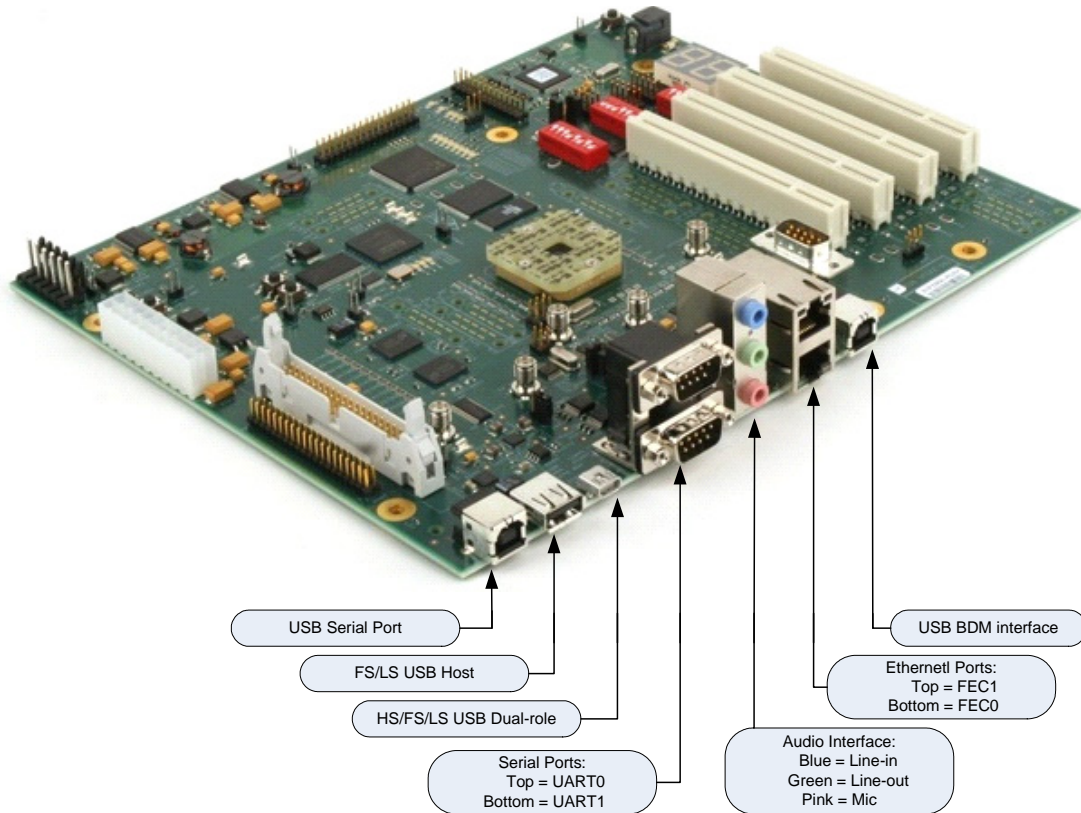

Figure 4. M54455EVB I/O Back Panel Port Locations
Refer to Figure 4 for the I/O back panel descriptions.
2. Connect one end of the provided serial cable to the DB9 serial port connector labelled UART0 (Refer to Figure 4).